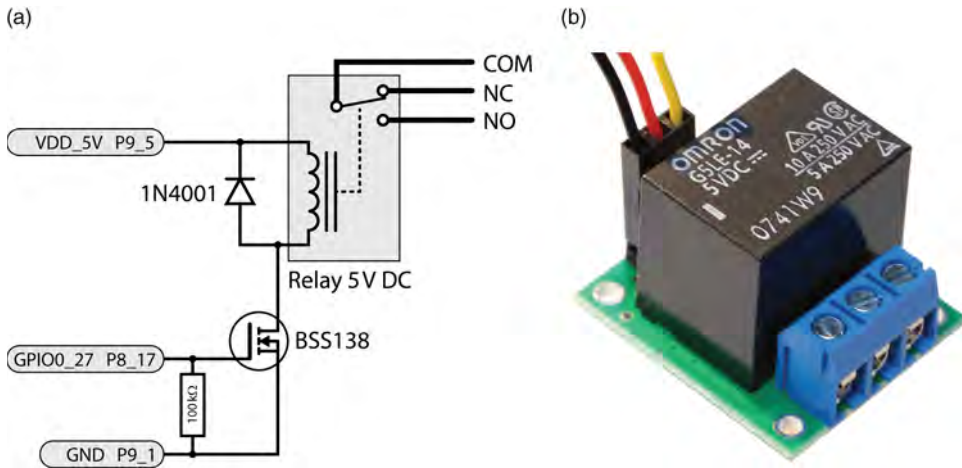

Figure 9-8: (a) Controlling a relay using the BBB; (b) an example breakout board
WARNING The circuit in Figure 9-8 is intended for connection to low-voltage supplies only (e.g., 12V supplies). High voltages can be extremely dangerous to human health, and only suitably trained individuals with appropriate safety equipment and taking professional precautions should wire mains-powered devices. Suitable insulation, protective enclosures, or additional protective devices such as fuses or circuit breakers (possibly including both current-limiting circuit breakers and earth-leakage circuit breakers) may be required to prevent creating either a shock or a fire hazard. Seek advice from a qualified electrician before installing mains-powered home automation circuitry.
Figure 9-8(a) illustrates the type of circuit that can be used to interface the BBB to a relay. It is important that the relay chosen is capable of being switched at 5V and that, like the motor circuit in Figure 9-2, a flyback diode is placed in parallel to the relay’s inductive load in order to protect the FET from damage. Pololu (www.pololu.com) sells a small SPDT relay kit (~\$4), as illustrated in Figure 9-8(b), that can be used to switch 8A currents at 30V DC using an Omron G5LE power relay. The breakout board contains a BSS138 FET, the flyback diode, and LEDs that indicate when the relay is switched to enable—that is, close the circuit connected to the normally open (NO) output.
The relay can be connected to a regular GPIO for control. For example, if the relay were connected as shown in Figure 9-8(a), to P8_17 (GPIO0_27), then it can be switched using the following: